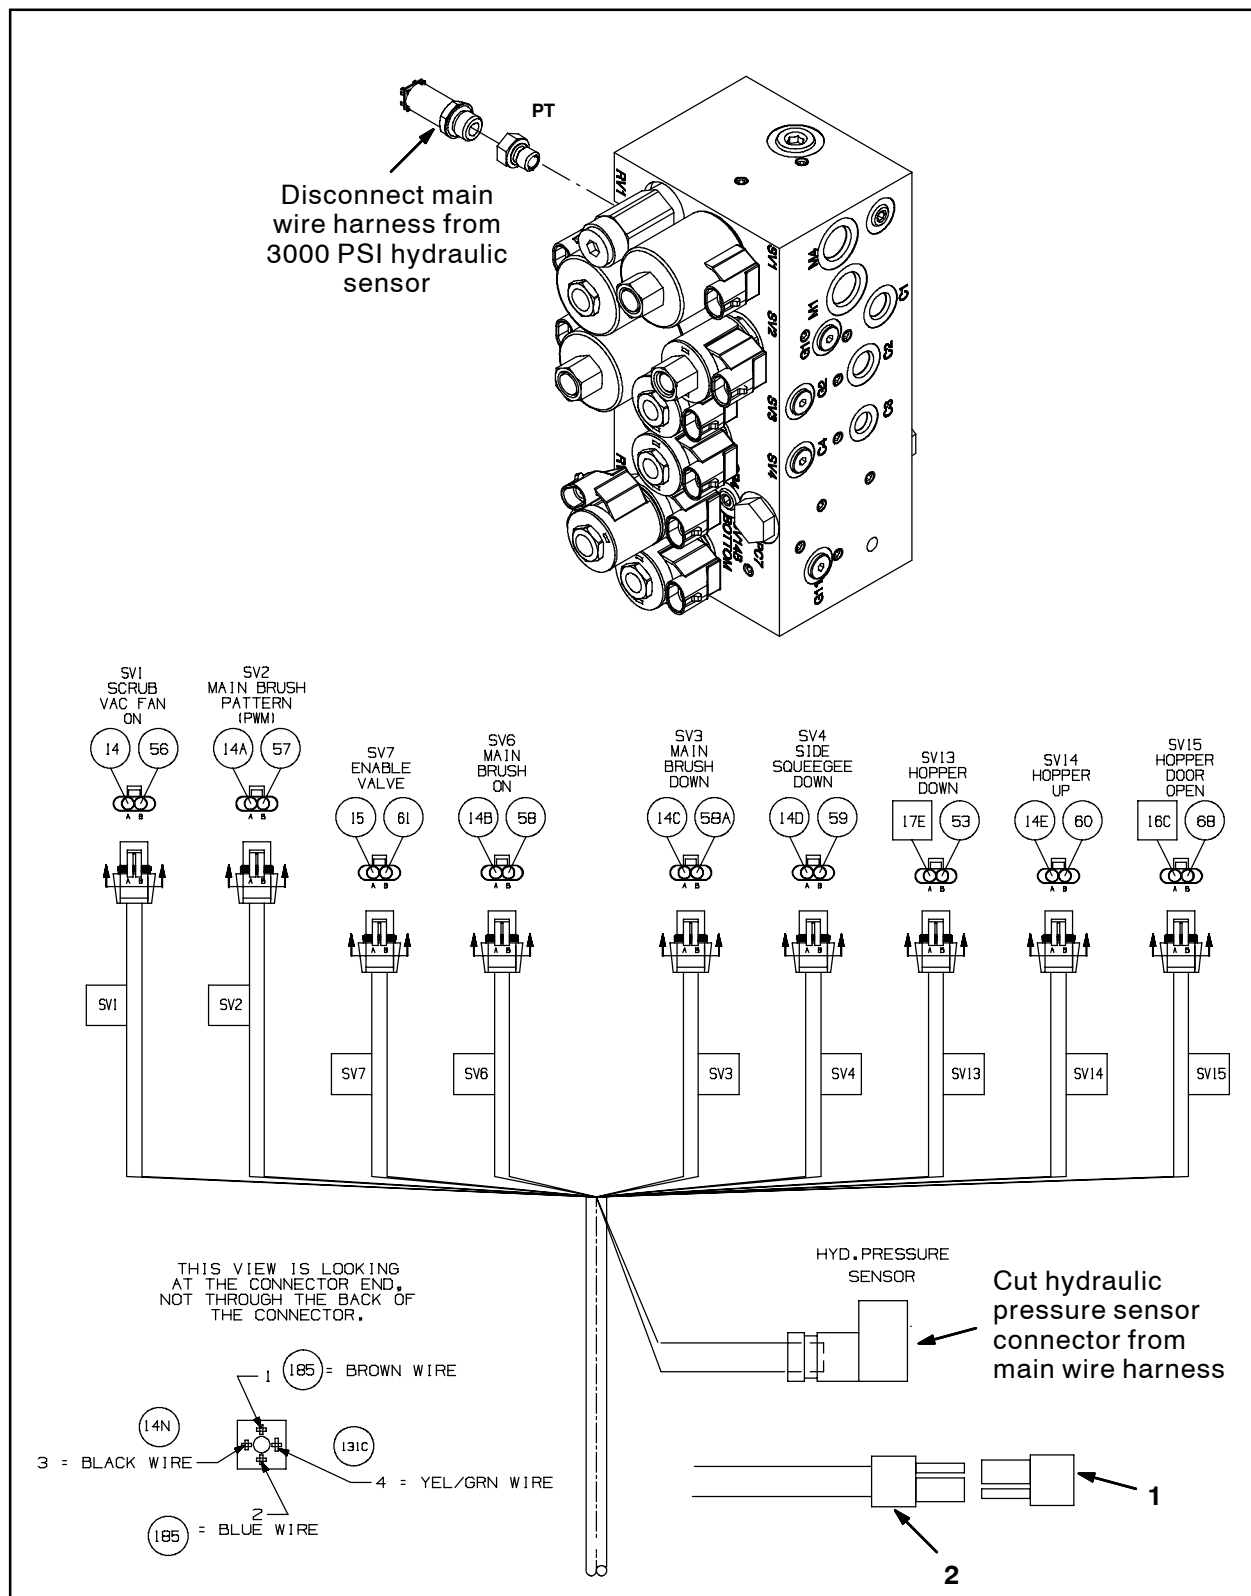
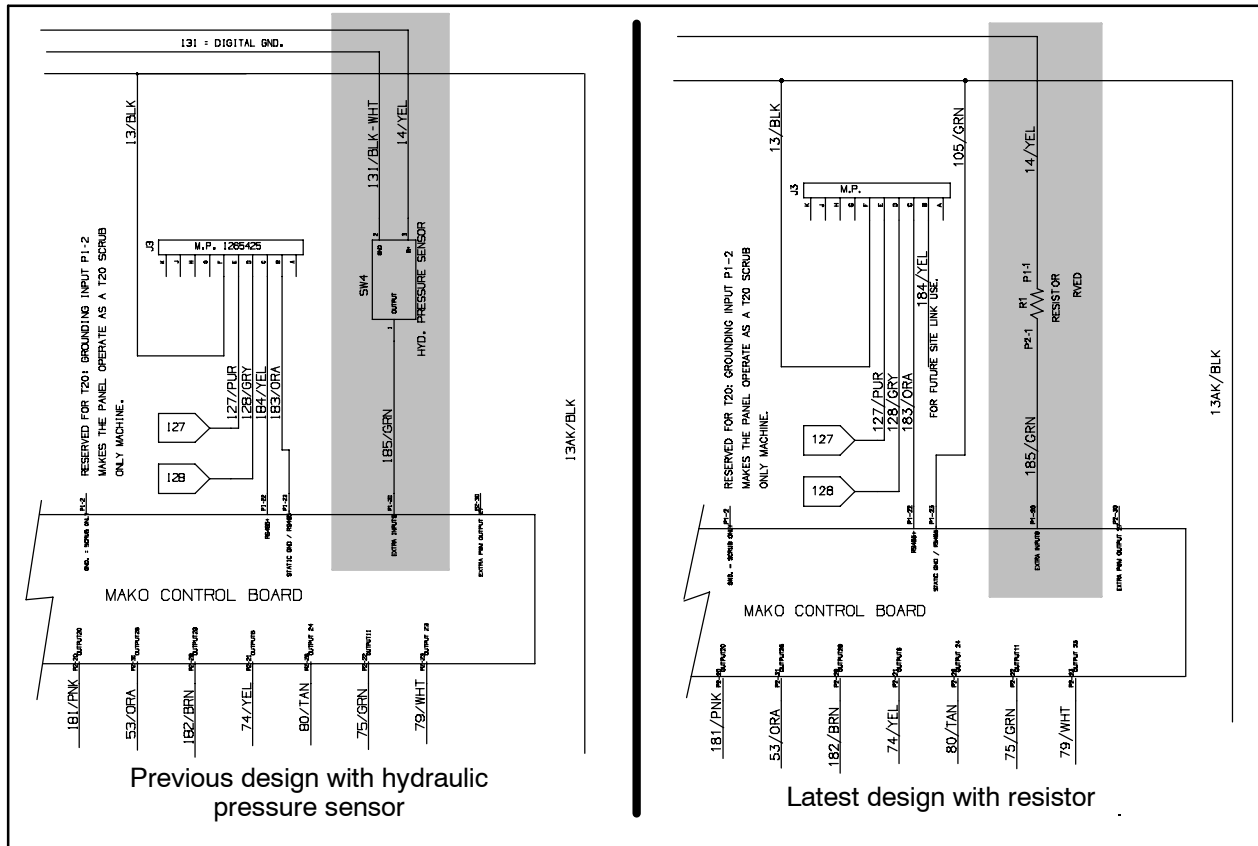

FIG. 1
FIG. 2
1. Disconnect the main wire harness from the hydraulic pressure sensor located at PT on the hydraulic solenoid valve. Refer to Fig. 1.
2. Cut the hydraulic pressure sensor connector from the main wire harness. Discard the connector. Refer to Fig. 1.
3. Heat a section of heat shrink (4) over the end of the BLACK-WHITE 131C wire.
5. Slide a section of heat shrink (4) onto the 185 GREEN wire and 14N YELLOW wire.
6. Use a 12GA splice connector (3) to connect the 185 GREEN wire and 14N YELLOW wire to the harness assembly (2). Refer to Fig. 1 and Fig. 2.
7. Heat the sections of heat shrink (4) over the two connections made in the previous step.
8. Connect the 2.5K resistor (1) to the harness assembly (2). Refer to Fig. 1 and Fig. 2.
9. Use a wire tie to secure the resistor (1) / harness assembly (2) to the main harness.